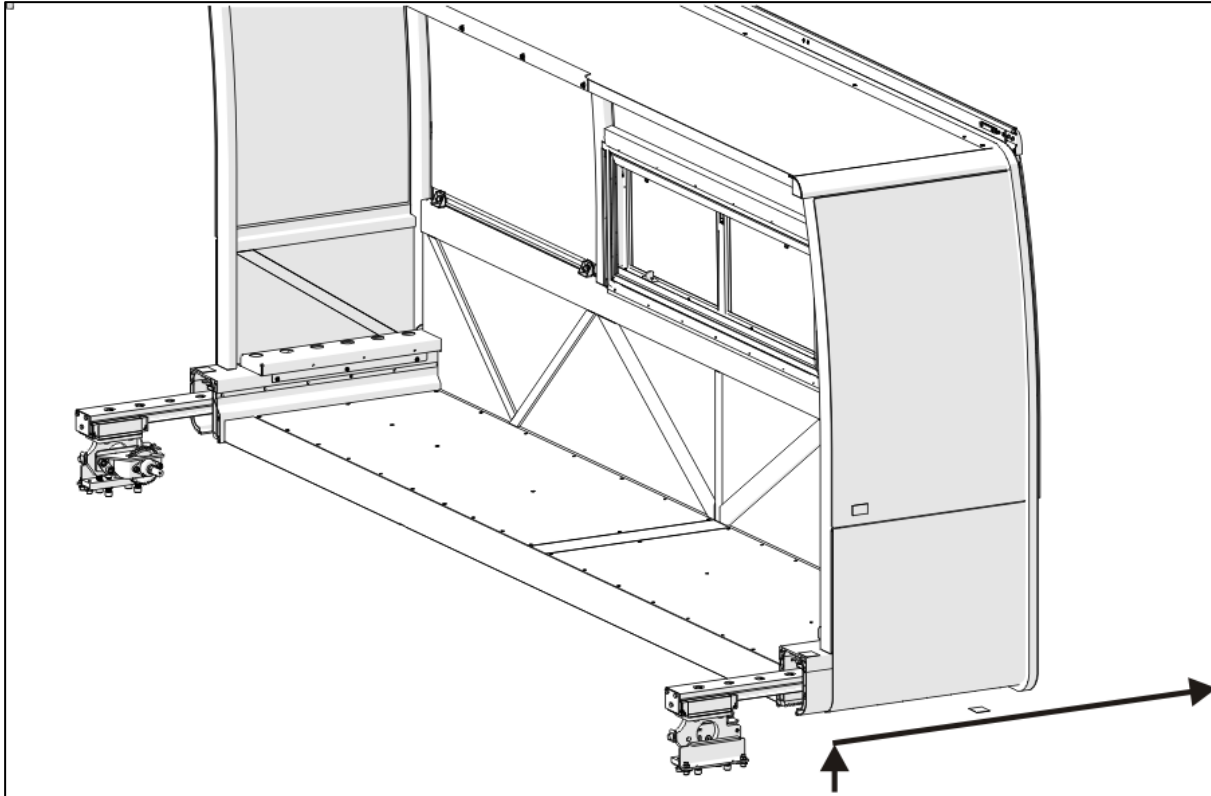

FIGURE 10: LIFTING AND PULLING THE ROOM OUT
18. Slowly pull the room straight out.(Figure 10)